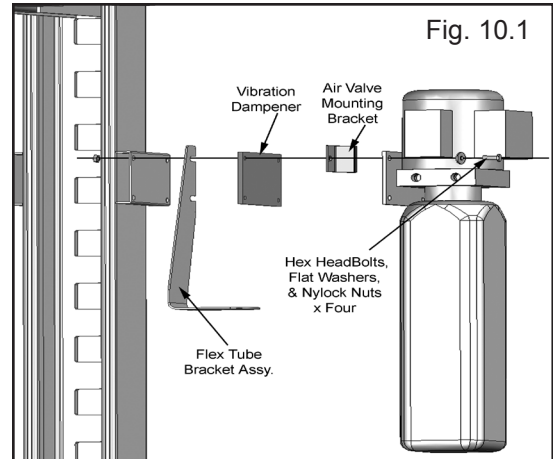

Fig. 10.1
1. Mount the Power Unit, Air Valve Mounting Bracket, Vibration Dampner, and Flex Tube Mounting Bracket to the Power Unit Mounting Bracket using the M8 hex bolts and Nylock Nuts. Fill the reservoir with 12 quarts of 10-WT hydraulic oil or Dexron III automatic transmission fluid. (See Fig. 10.1)